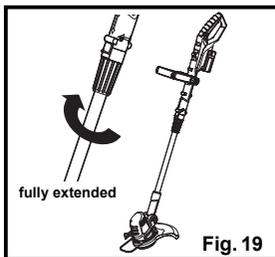

Fig. 19
- Press the unlock button (4) on either side and hold it in position.
- Press the on/off switch (3) to switch the product on (Fig. 19).
- Release the on/off switch (3) to switch the product off.